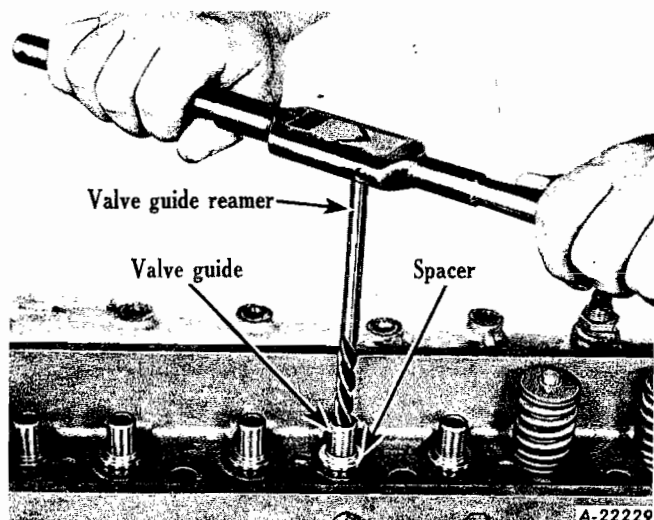

Fig. 12
from .002" to .004" for exhaust valves, and from .0015" to .0035" for intake valves. Clearance in excess of .006" for intake valves or .008" for exhaust valves, requires guide replacement. Valve guides are reamed to .437" after assembly (Fig. 12).
2. If any valve guide shows excessive clearance or out-of-round-condition, press guide from head. Install new guide, and press into head until approximately 1-1/16" remains above the top surface of the head. Check valve guides after installation to .002" to .004" for exhaust and .0015" to .0035" on intake with "Go and No-Go" gauge. Ream valve guides to .437" after assembly in cylinder head (Fig. 12).